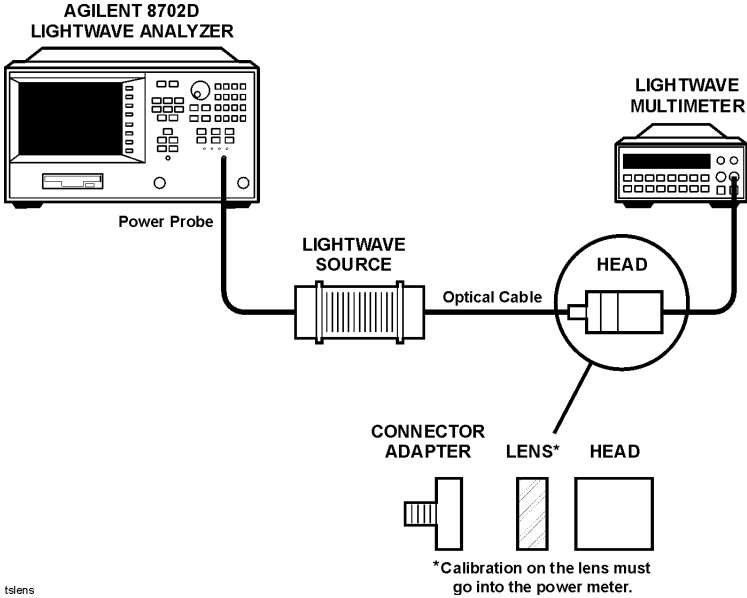

Figure 4-2. Average output power test setup
- 1 Connect the equipment as shown in Figure 4-2.